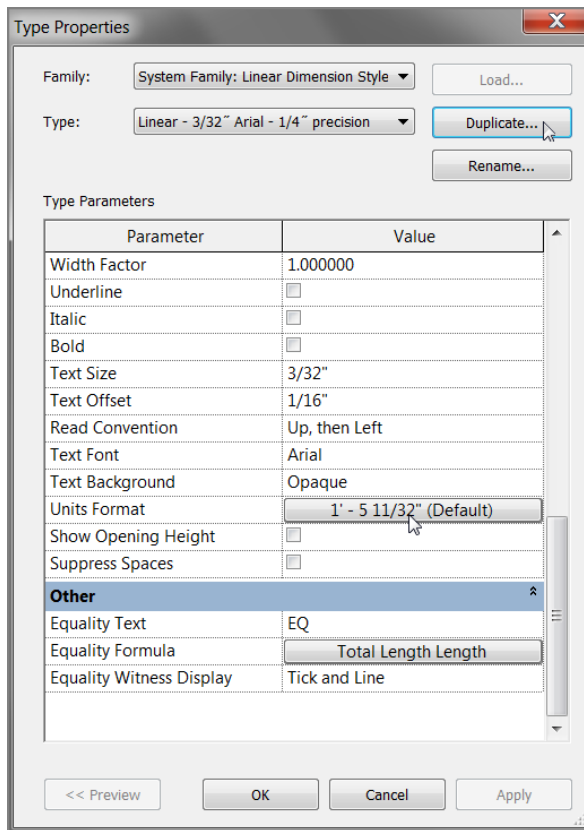

FIGURE 5.14: Select the button in the Text category to access the dimension's precision.
3. Click the Duplicate button, as shown in Figure 5.14.
5. Scroll down to the Text category. Near the bottom is a Units Format row with a button that displays a sample increment. Click it (see Figure 5.14).